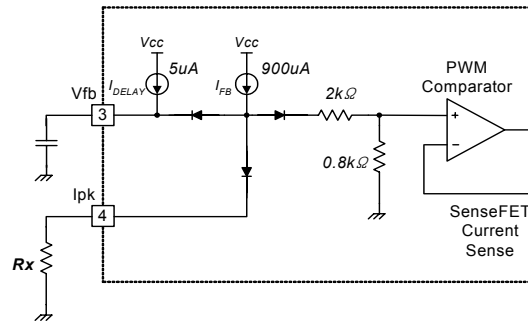

Figure 13. Peak Current Limit Adjustment
**8. Adjusting Peak Current Limit :** As shown in Figure 13, a combined  $2.8\text{k}\Omega$  internal resistance is connected to the non-inverting lead on the PWM comparator. A external resistance of  $R_x$  on the current limit pin forms a parallel resistance with the  $2.8\text{k}\Omega$  when the internal diodes are biased by the main current source of  $900\mu\text{A}$ .